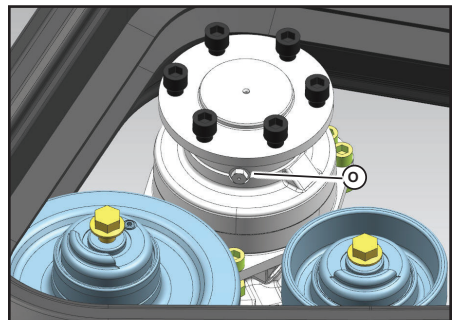

Fig. 75 - Lower Travel Motor Oil Plug
1. Park the machine with one of the travel motor drain/fill hole plugs (O, Fig. 75) at the bottom.